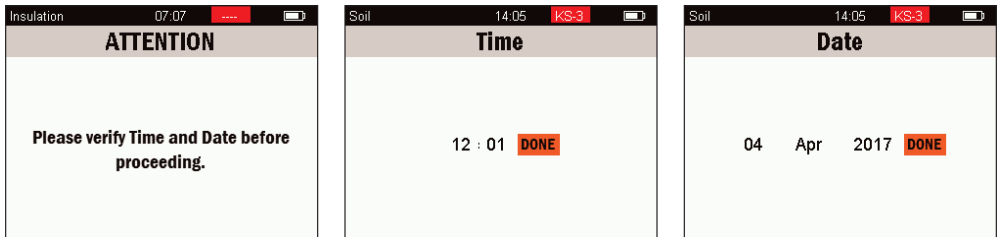

Figure 12 Verify time and date
1. When the TEMPOS controller is first turned on, a message requesting time and date verification appears (Figure 12).